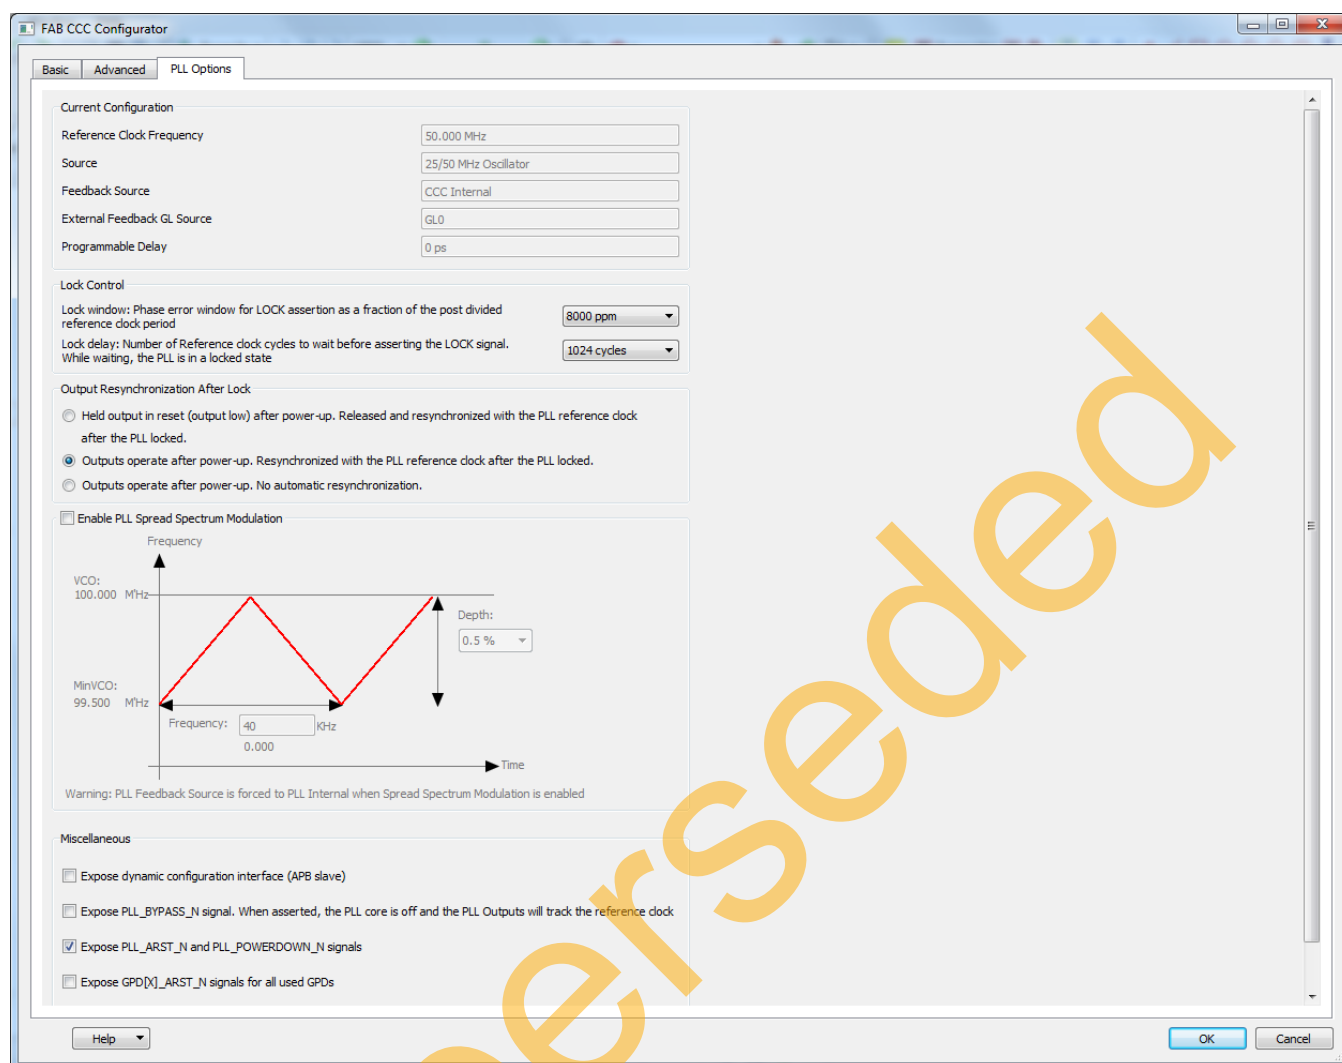

Figure 20. Exposing the PLL Reset and Power-down Signals
- On the **PLL Options** tab, select the **Expose PLL_ARST_N** and **PLL_POWERDOWN_N** check box, as shown in Figure 20.